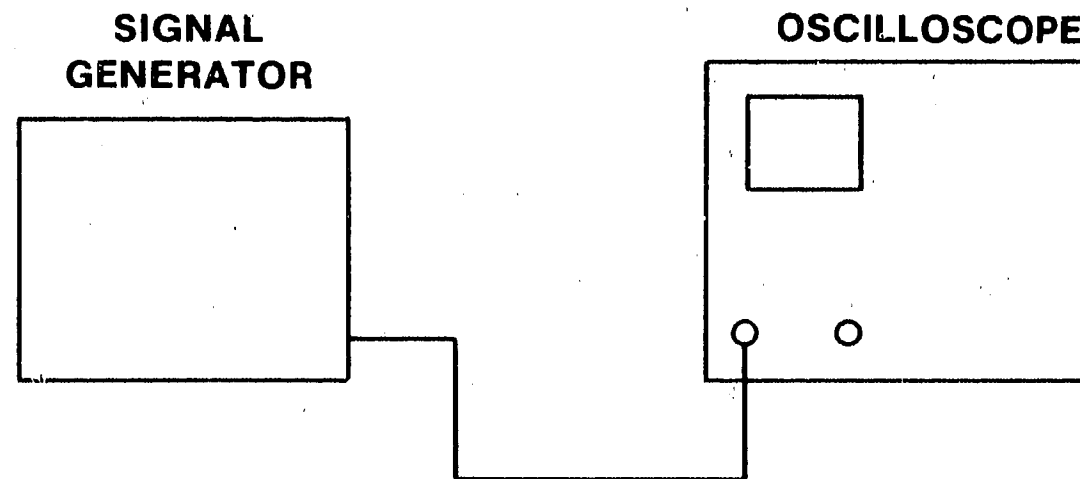

Figure 4-3. Internal Triggering Test Setup
a. Connect equipment as shown in figure 4-3.